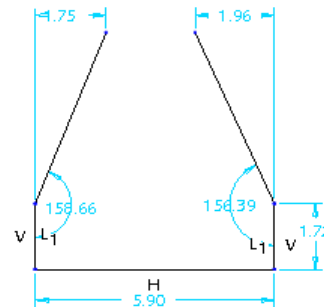
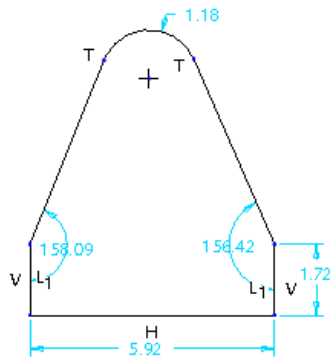

Figure 2-23 Partial sketch with weak dimensions
Figure 2-24 Sketch with arc
- Draw an arc and a circle, refer to Figures 2-24 and 2-25.
Figure 2-23 shows the lines that you have drawn. Notice that when you end the line creation by pressing the middle mouse button twice, all the constraints that you have applied become visible, refer to Figure 2-23. Now, you need to draw the arc and the circle.
The horizontal constraint **H** and the vertical constraint **V** appear in red color. The red color of the constraint indicates that the constraint is strong. This means you cannot change the orientation of the line until you delete the constraint applied to the line. The constraints displayed in grey color indicates that they are weak constraints, refer to Figure 2-23.
4. As the tangent constraint appears, click to end the arc creation. You will notice that the tangent constraint with the symbol **T** appears at the endpoints of the arc, as shown in Figure 2-24. Press the middle mouse button to end the arc creation.
Note that in Figure 2-23, there are some weak dimensions that are not displayed in Figure 2-24. This is because weak dimensions get deleted without confirming their deletion. Hence, after drawing the arc, some weak dimensions get deleted automatically.